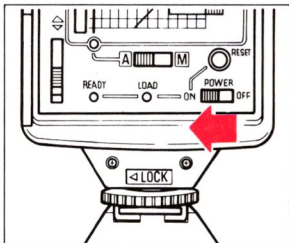

Fig. 44
6. Turn the flash power on-off switch ON. (Fig. 44)